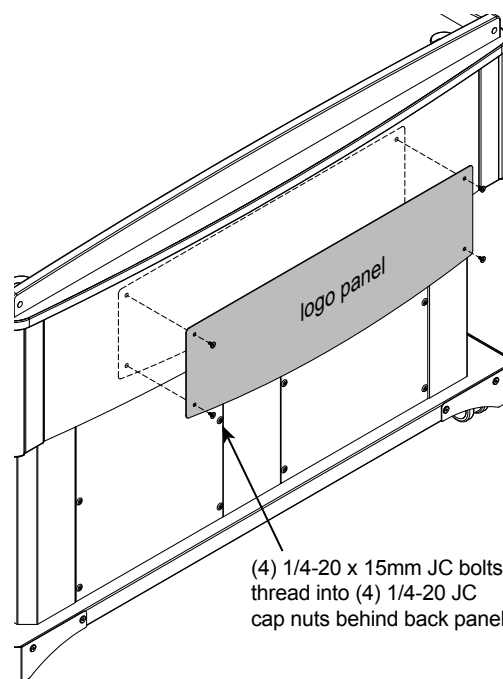

Figure 2
1. Install the logo panel to the audience-side of the lectern with (4) 1/4-20 x 15mm JC Bolts and (4) 1/4-20 JC cap nuts on the back of the back panel and tighten securely. **Figure 2.**